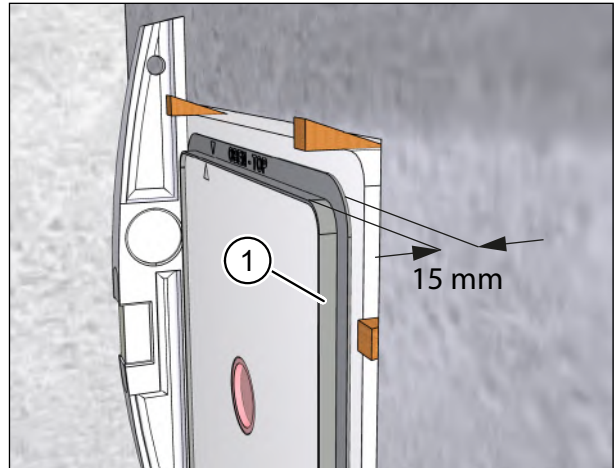

Fig. 16: Depth of plastering trim 15 mm
The plastering trim is 15 mm deep (see Fig. 16).
- ▶ If the interior wall is not perpendicular or flat, align the front surface of the plastering trim (item 1 in Fig. 16) parallel to a plaster stop bead running vertically.